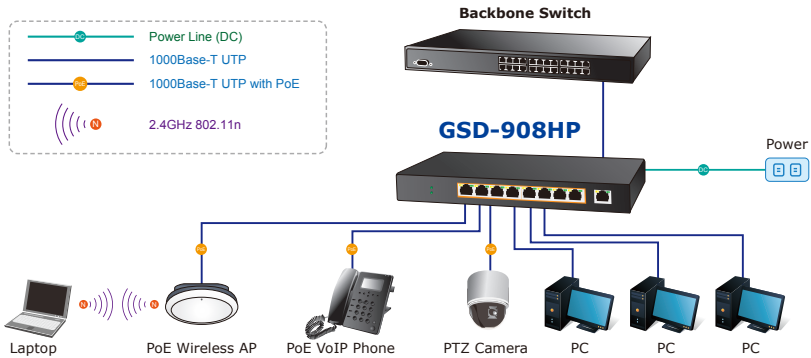

Figure 3-8: Department / Workgroup PoE Switch Connection
Step 2: Providing up to eight 802.3at / 802.3af PoE in-line interfaces, use an Ethernet cable to connect various 802.3at / 802.3af PD devices. Such as wireless AP, IP Phone and IP Camera devices, as shown in Figure 3-8.